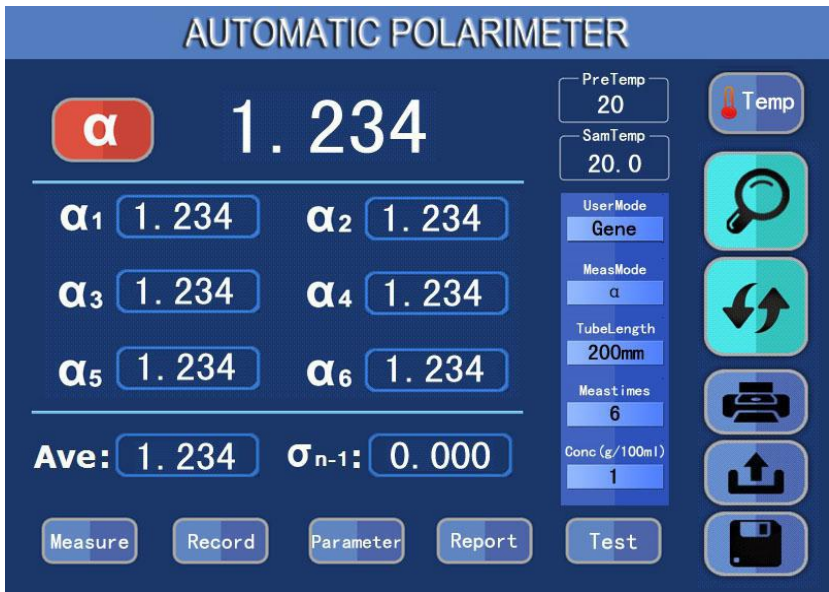

Figure 8
(C) The temperature hits the preset value, see Figure 8.